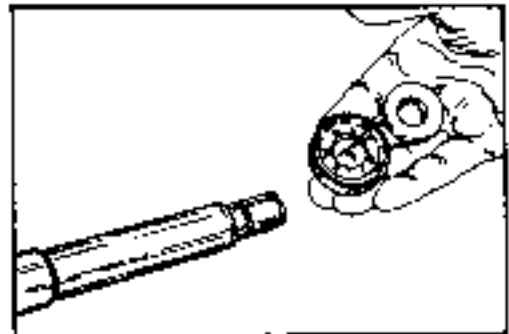

FIGURE 38.
47. Remove washer (35) and retaining plate (36) from input shaft/wheel tube (33) or upper cover and jacket assembly (37). Discard, if deformed or damaged. See figure 38.